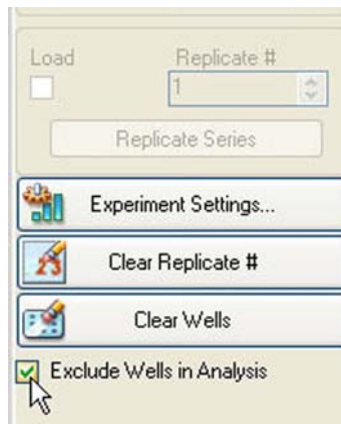

Figure 45. Exclude Wells in Analysis Checkbox at bottom of the pane.
4. Click **Exclude Wells in Analysis** (Figure 45) to exclude the selected wells. This checkbox is at the bottom of the Plate Editor controls on the right side of the window.